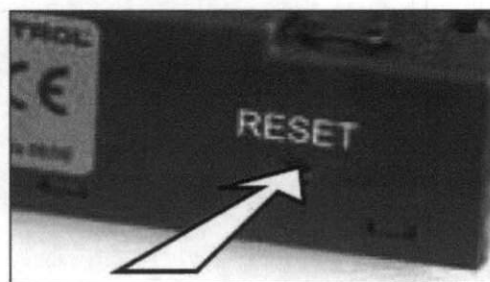

Figure 37 – Receiver Reset Button Location
Press and hold the receiver's reset button (see figure 37) until you hear two (2) beeps. The first beep is short and the second beep is long. After the second beep, release the reset button.